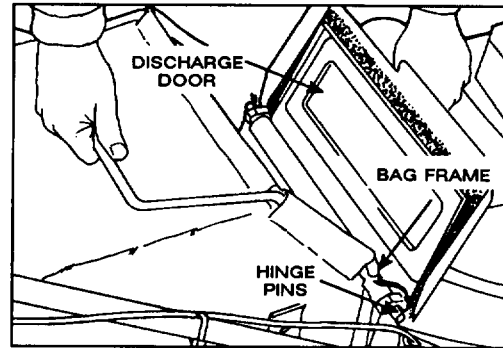

Figure 2
6. To install grass bag, raise discharge door and hook bag frame onto hinge pins (Fig. 2). Allow bag to rest on mower housing over discharge open-